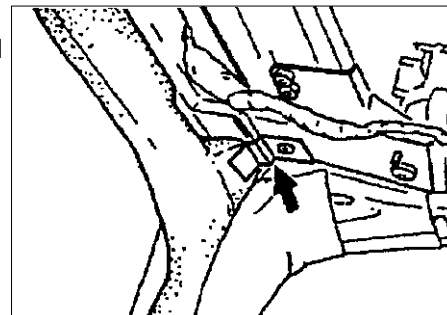

Figure 4
- Reinstall the holding bracket (part number 993 562 571 00, arrow, figure 4) for the door seal on the inside.